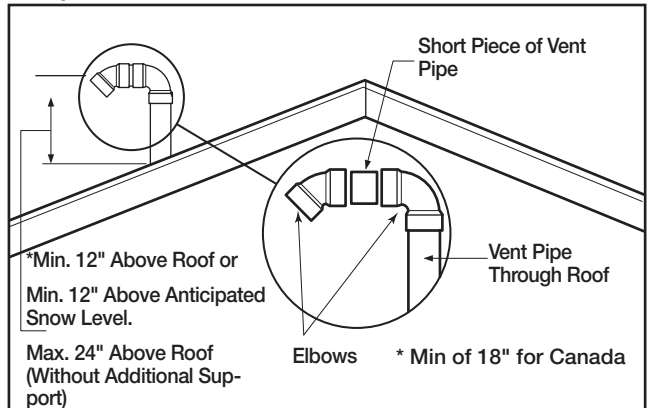

Figure 11 – Vertical Vent Terminal Location
Install adequate flashing where the vent pipe passes through the roof. Determine the vent terminal height and cut vent pipe accordingly. Refer to Figure 11 for proper vent terminal height. Connect vent elbow onto vertical pipe through roof. Connect short piece of vent pipe (approximately 3" (7.6 cm) long) to elbow, then join terminal to the short piece of vent pipe.
**VERTICAL VENT TERMINAL LOCATION** – The location of vertical vent terminal depends on the following considerations (see Figure 11):
4. Four (4) feet (1.22 m) from any gable, dormer or other roof structure with building interior access (i.e., vent, window, etc.).
5. Ten (10) feet (3.05 m) from any forced air inlet to the building. Any fresh or make-up air inlet such as a dryer or furnace area is considered to be a forced air inlet.
6. Vent Terminals are a minimum of twenty-four (24) inches (61 cm) and a max of 36" horizontally apart.